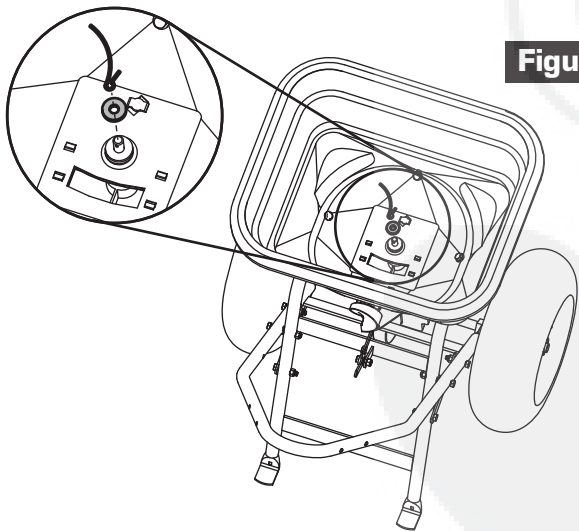

Figure 7
7. Inside the hopper, assemble the Felt Washer and Agitator Wire onto the Spinner Shaft as shown in Figure 7. **NOTE: Notice orientation and sweep of Agitator Wire (Shown in Figure 7).**